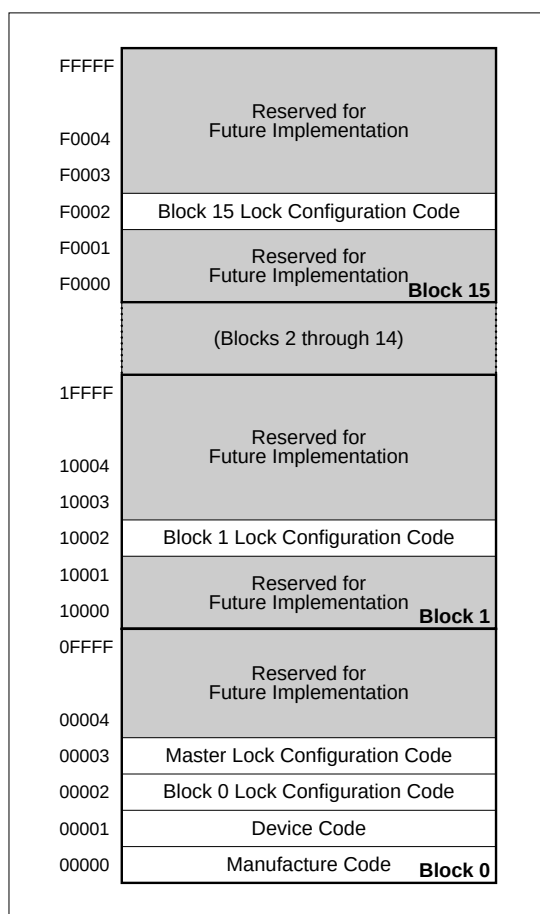

Fig. 2 Device Identifier Code Memory Map
The read identifier codes operation outputs the manufacture code, device code, block lock configuration codes for each block, and the master lock configuration code (see **Fig. 2**). Using the manufacture and device codes, the system CPU can automatically match the device with its proper algorithms. The block lock and master lock configuration codes identify locked and unlocked blocks and master lock-bit setting.
IA = Identifier code address : see **Fig. 2**.
The identifier code operation is initiated by writing the Read Identifier Codes command. Following the command write, read cycles from addresses shown in **Fig. 2** retrieve the manufacture, device, block lock configuration and master lock configuration codes (see **Table 4** for identifier code values). To terminate the operation, write another valid command. Like the Read Array command, the Read Identifier Codes command functions independently of the V_{PP} voltage and $RP\#$ can be V_{IH} or V_{HH} . Following the Read Identifier Codes command, the following information can be read :
1. X selects the specific block lock configuration code to be read. See **Fig. 2** for the device identifier code memory map.